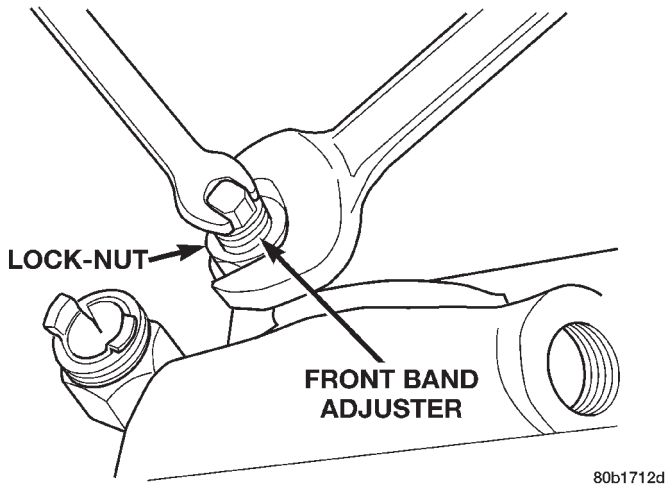

Fig. 182 Front Band Adjustment Screw Location
- (1) Raise vehicle.
- (2) Loosen band adjusting screw locknut (Fig. 182). Then back locknut off 3-5 turns. Be sure adjusting screw turns freely in case. Apply lubricant to screw threads if necessary.
- (3) Tighten band adjusting screw to 8 N·m (72 in. lbs.) torque with Inch Pound Torque Wrench C-3380-A, a 3-in. extension and 5/16 socket.